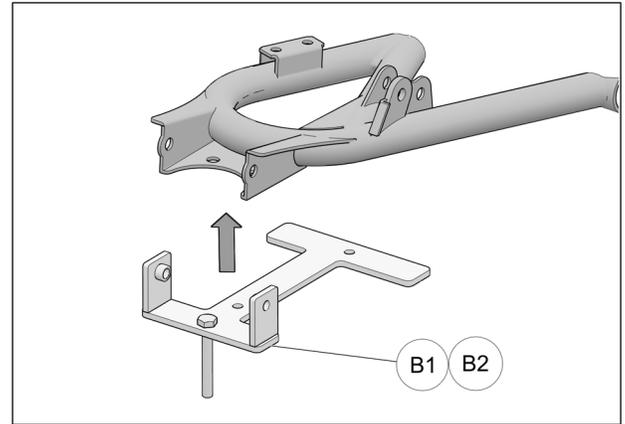

Fig. 7
6. Position rear anchor bracket (**B1-B2**) under lower suspension arm. See Fig. 7